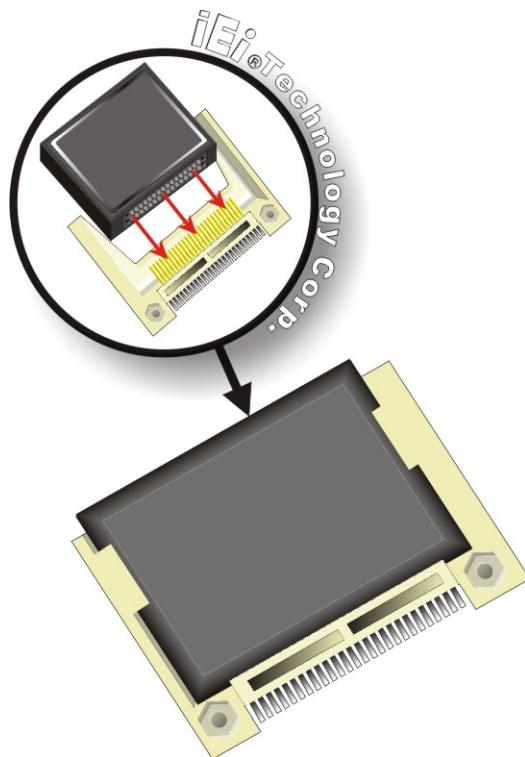

Figure 4-1: CompactFlash® Card Installation
Step 3: Insert the CF card. Push until the CompactFlash® card is firmly seated in the slot. See Figure 4-1.